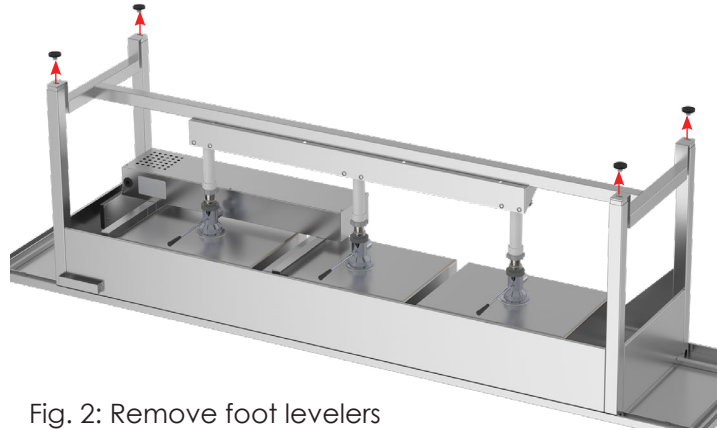

Fig. 2: Remove foot levelers
1. Unscrew the foot levelers from each of the hydraulic legs (Fig. 2).